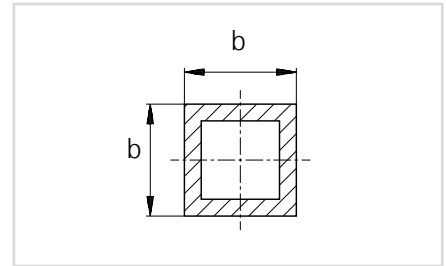

Figure 5-12
- ϕ° = Torsion angle. See figure 5-12.